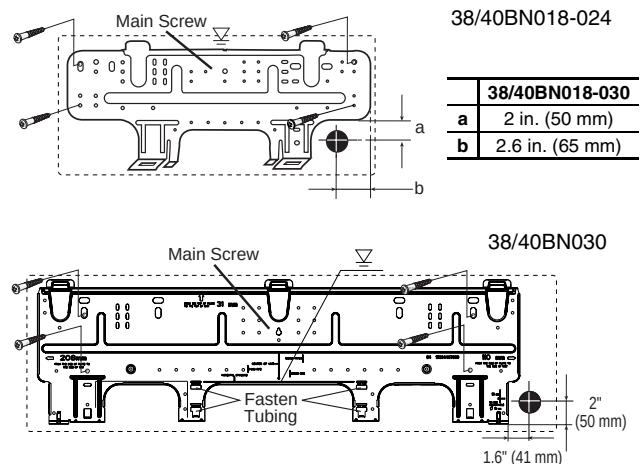

Fig. 5 — Mounting Bracket
3. Mark the four drilling holes on the wall, as they appear in Fig. 5.
1. Mark the center of the hole to be drilled according to the refrigerant line routing used and dimensions shown in Fig. 5.